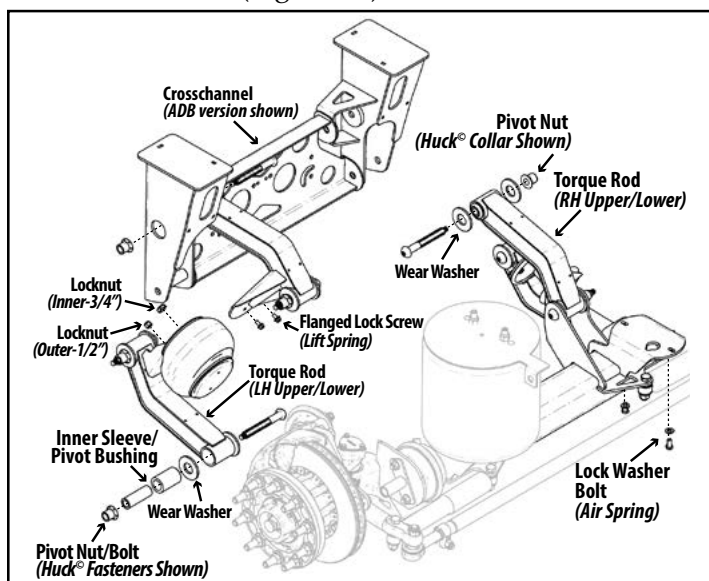

Figure 11.
1. Cut/grind away Huck® Collar. Take pivot connection apart. Discard pivot hardware. Discard wear washers (Figure 11).
6. Assemble the pivot connection with one wear washer on each side of the bushing. The inner sleeve of the bushing must be flush with or extend slightly past the outside of the wear washers after assembly (Figure 11).